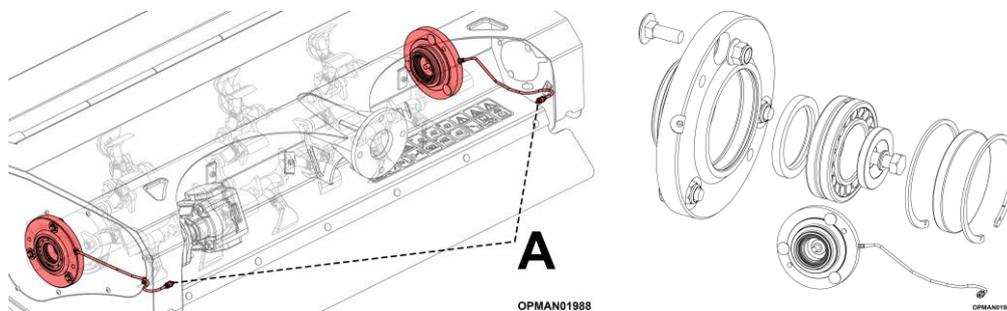

Figure 5.3 – Powerdrive Pro Rotor Shaft Bearing Housings
With reference to Figure 5.3 (A), grease nipples are found on the inside of rear of both sides of the main cowl fabrications which need to be greased at least everyday, and even more frequently in hard working applications.